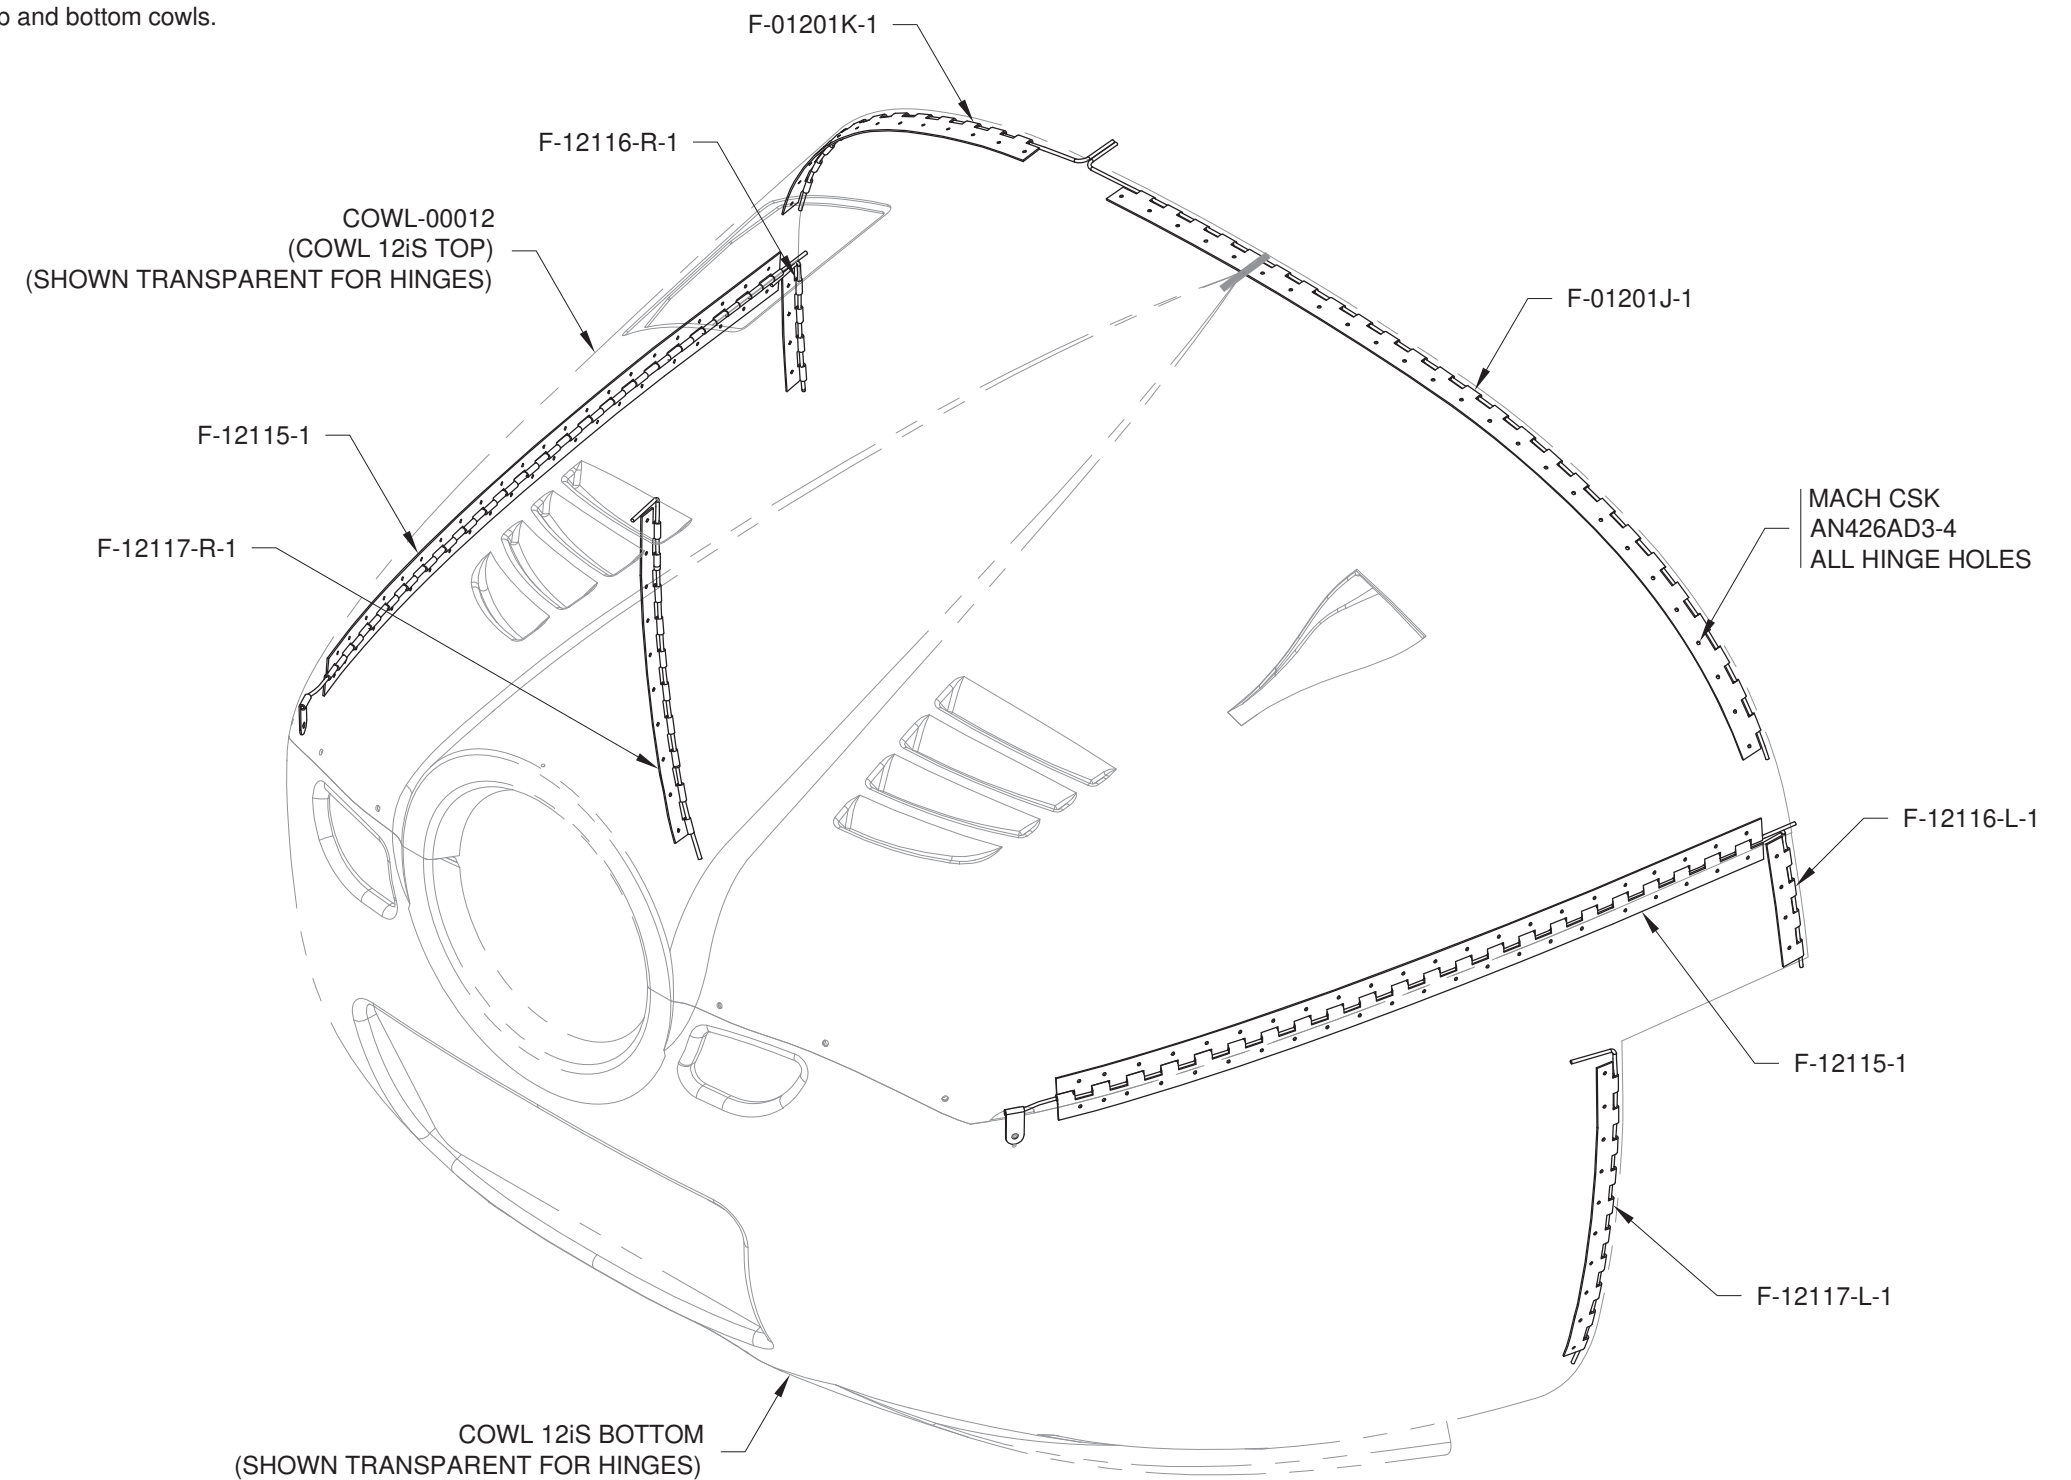

FIGURE 1: RIVETING THE HINGES
Step 1: Separate the COWL 12 OIL DOOR and COWL-00008 as shown in Figures 1 and 2.